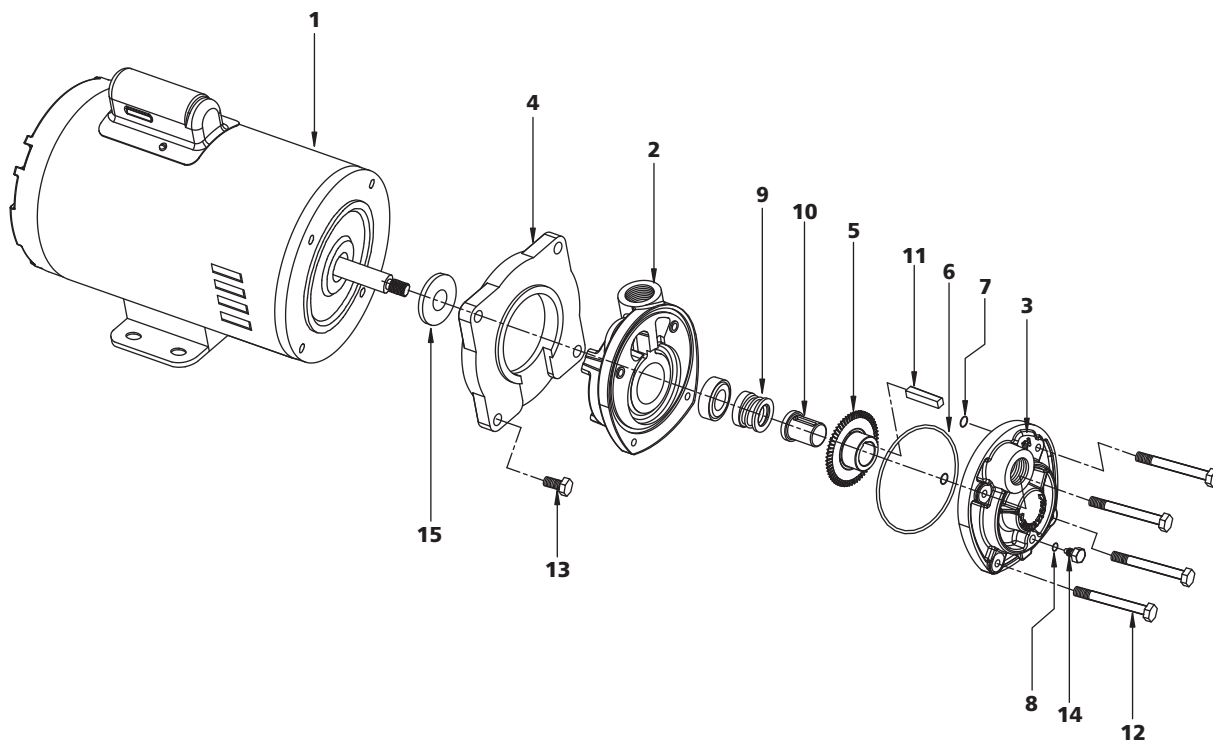

Figure 9 – Repair Parts Illustration
1. Pump should be drained if subjected to freezing temperatures. A drain plug (Please refer figure 9, 10 & 11) is provided on the pump casing.
can be detected by a dripping or flow of liquid from the area around the motor shaft sleeve (Please refer figure 9, 10 & 11).
1. Remove the four bolts that attach to front cover of the body. Then remove the cover and o-ring gasket (Please refer figure 9, 10 & 11).